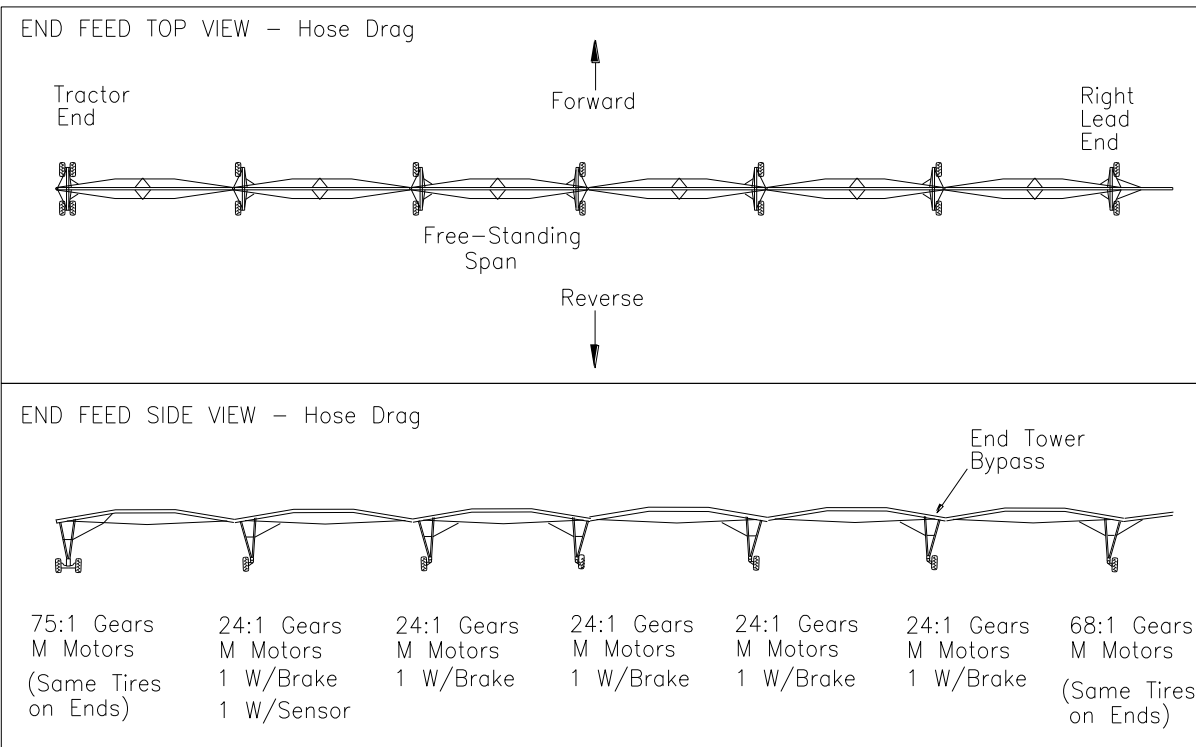

Figure 2. End Feed Hose Drag Linear Layout
1. Slide the Leg Gusset (1) over the 1" Oil Lines. Install rubber grommets (2) in the Leg Gusset holes.
2. Lift the end of the span approximately 7 feet high. Bolt on 4 tower legs (3) to the outer holes of the two and three hole bracket on the tractor A-pipe using four - 5/8 x 1 1/2 bolts w/nut and lock (4). Cross the legs until following step is complete.
3. Bolt top end of Diagonal Braces, 1/4" thick material, (5) and Diagonal Cross Straps (12) to top end of Tower Legs (3) with four - 5/8 x 1 1/4 bolts with nut and lock washer (6). Bolt four Tower steps (7,8,9,10) to the right side Tower leg (3) using four - 3/8 x 1 bolts with nut (11).
4. Lift the span up high enough to uncross the legs. Bolt the bottom ends of the Diagonal Braces (5), Diagonal Straps (12), Lower Diagonal Braces and Straps (2,22), the Tower Braces (13) and the Middle Steps (14) to the Tower Legs (3) with two 5/8" x 2" Bolts with locks and nuts (15). Bolt the Middle Steps (14) to the other Tower Leg (3) with two 5/8" x 2" Bolts with locks and nuts (15). Bolt four Tower steps (7,8,9,10) to the other Tower leg (3) using four - 3/8 x 1 bolts with nut (11).
5. **NOTE: The Deck must be turned so that the tall side of the auxiliary brackets at the top of the ends of the deck are toward the free standing span. See note on Figure 2.** Lift span and tower legs high enough to bolt on deck (16). Bolt deck (16) to Tower legs (3), both on top and on the sides using eight - 5/8 x 1 1/2 bolts with nut and lock washer (4) on the sides and eight - 5/8" x 2" Bolts with locks and nuts (15).
6. (See Detail B) Attach Non-Pivoting Wheel Mounts (17) to deck (16) with two 1" x 12 1/2" Axle Shaft (18), two 1" flat washers (19) and two 3/16" x 2" cotter pins (20). *NOTE: Grease Axle shaft before assembly. Make sure motor port holes on Wheel Mount face toward the center of the deck. For Pivoting type mounts see "Pivoting Option" installation section.*
7. Bolt Planetary Drive Assemblies (40) to the Wheel mounts using 32 - 5/8" x 2" bolts with nuts and lock washers (6). Line up motor ports with holes in wheel mount gusset. Bolt the Wheels to the Gears with 36 - Taper Lug Nuts. (Tires should be mounted so that the lugs point to the center of the Deck with valve stems out.)
8. Bolt 6" Water shut off valve (21), and Lower drop pipe (23) to the water outlet located at the center of the deck (16) with eight 5/8" x 12" Bolts with nuts (24). Electric solenoid on 6" valve should be turned toward engine. Rotate Lower drop pipe (23) so off set is toward free standing span. Slide 6 5/8" x 16" Water Boot (25) over Lower Drop Pipe (23). Fit rubber gasket (26) into Upper Drop Pipe (27) and slide upper drop pipe down into lower water drop. Attach Upper Drop Pipe (27) to Tractor A-Pipe inlet (28) using a 6" band lock band (29). Center Water Boot (25) on the Lower Drop Pipe (23) and Upper Drop Pipe (27). Clamp in place with two 6 5/8" Tee Bolt Bands (30).
9. Bolt Hydraulic Pumping Unit (31) and Fuel Tank Rails (32) to the Deck (16) using eight-5/8" x 1 1/4" bolts with lock washers and nuts (6).
10. Mount Electric control panel and hydraulic control panel assembly to the end of fuel tank rails using four 3/8" x 1 1/4" bolts with lock washers and nuts (11).